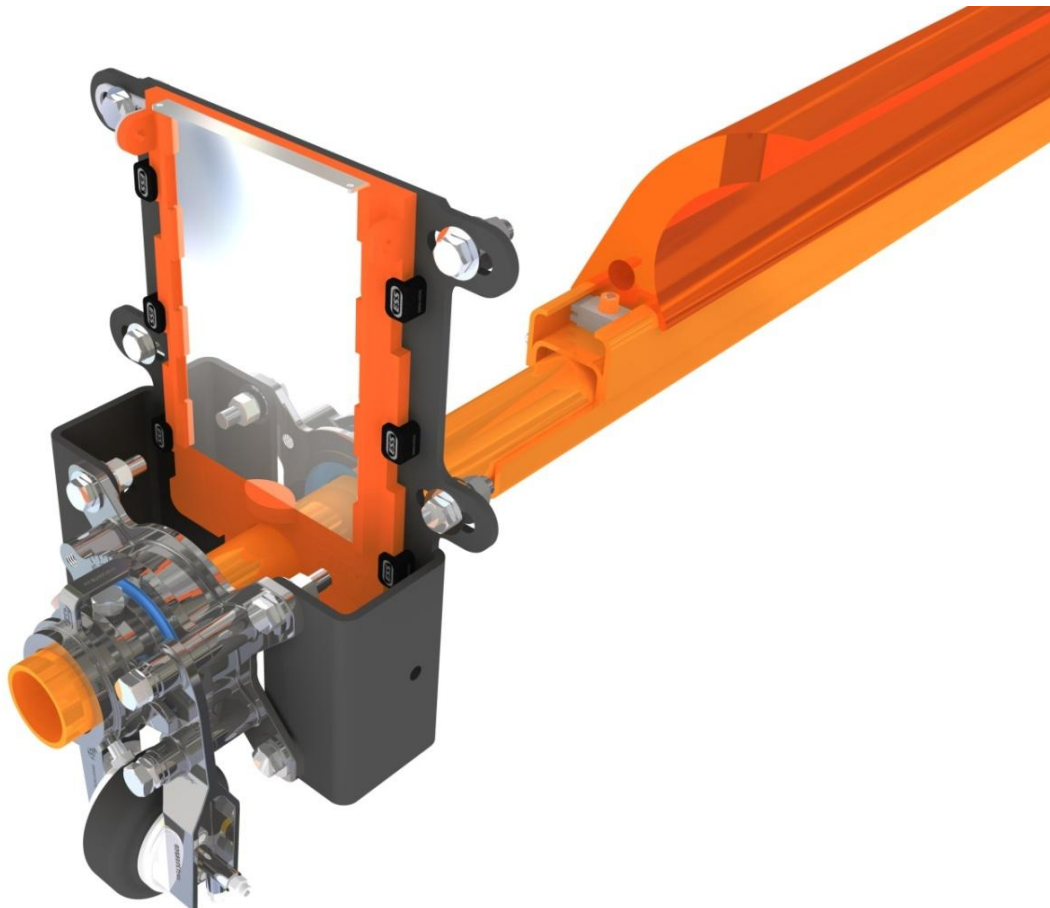

Figure 12 – Combi Safe Access Door and XHD Cleaner
4. After determining the correct tensioning direction from figure 12, slide the Operating Arm of the tensioner onto the cleaner mainframe until the Pivot Bracket aligns with the two threaded holes in the mount. Secure the Pivot Bracket with the two M16 bolts supplied.